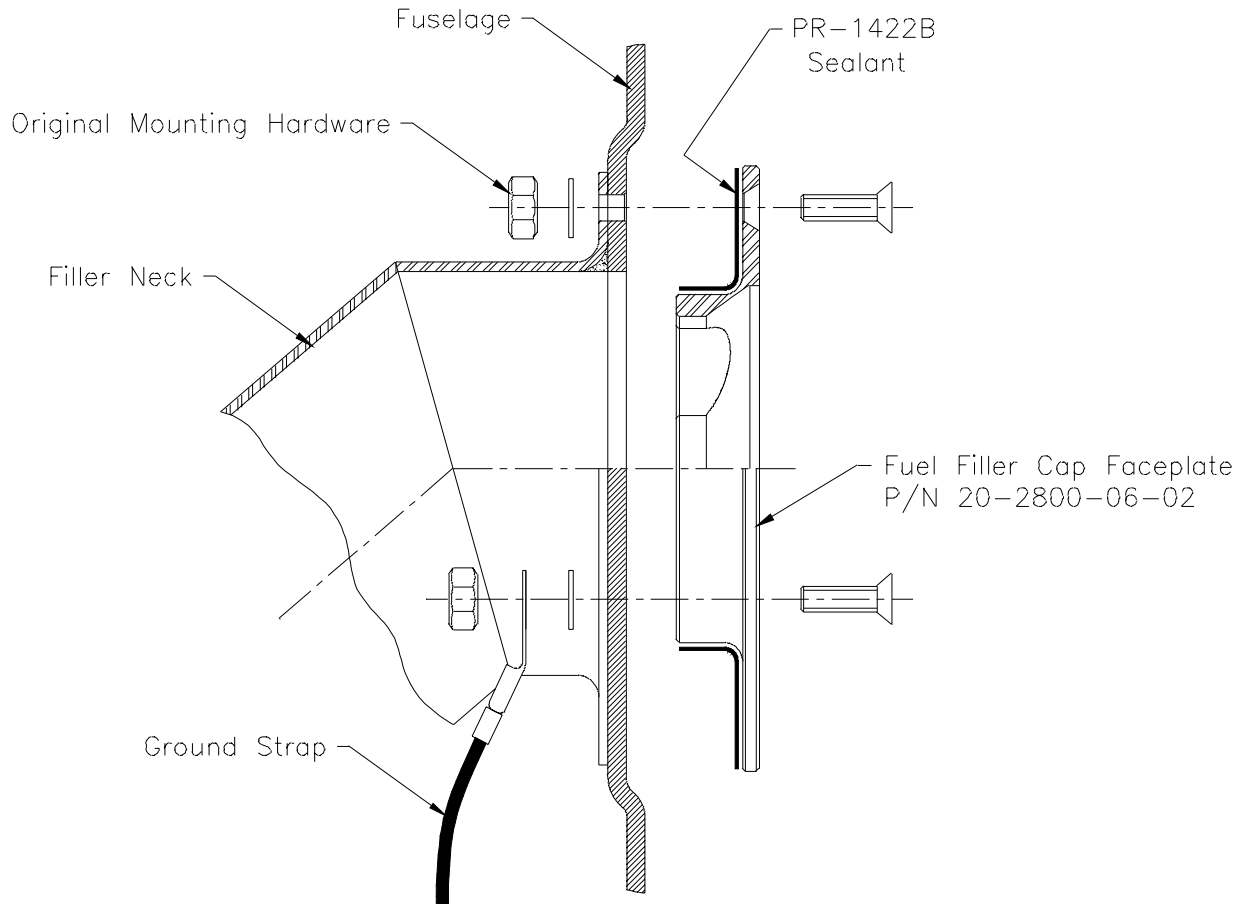

Figure 1.
- 10.1.7 Taking the new faceplate, clean the mounting flange area with acetone. Apply PR-1422B Sealant to the flange area, as shown in Figure 1.
- 10.1.9 Reinstall the original mounting hardware and grounding strap (refer to Figure 1). Remove any excess sealant. Allow the sealant to cure completely (refer to the manufacturer's recommendations).